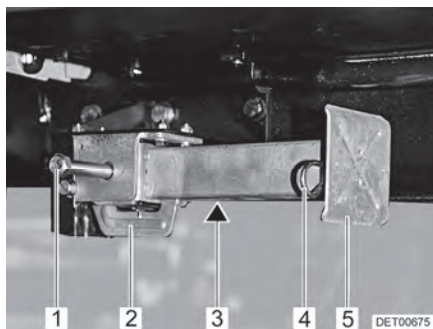

Fig. 27 Steady leg
- Place the socket spanner on the hexagonal nut (Fig. 27,1) and rotate until the steady leg is in a perpendicular downward position.
- If the length of the steady leg can be adjusted, remove the splint (Fig. 27,4) out of the support foot extension (Fig. 27,5).
- Place the socket spanner on the hexagonal nut (Fig. 27,1) and rotate until the steady leg is clear of the ground.
- Push in the support foot extension (Fig. 27,5) and insert the splint (Fig. 27,4) in the drilled hole in the support foot extension.
- Rotate the hexagonal nut (Fig. 27,1) until the steady leg has swung upwards and the guide (Fig. 27,2) has reached the very end of the slot (Fig. 27,3).